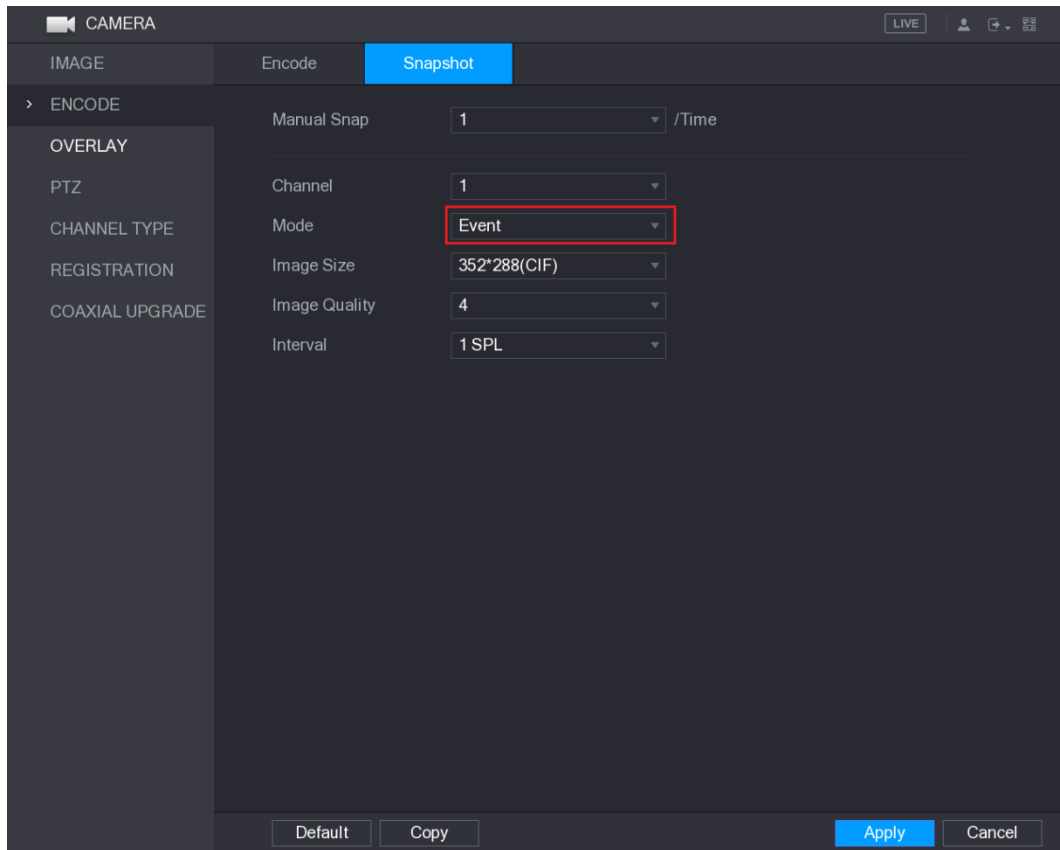

Figure 5-88
Step 2 In the **Mode** list, select **Event**, and then configure other parameters. See Figure 5-88.